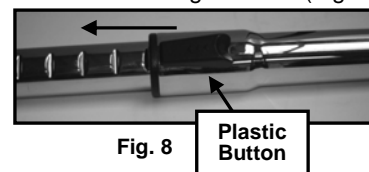

Fig. 8
- Push forward on the plastic button and pull the inner tube outward to extend for a longer reach. (Fig. 8)